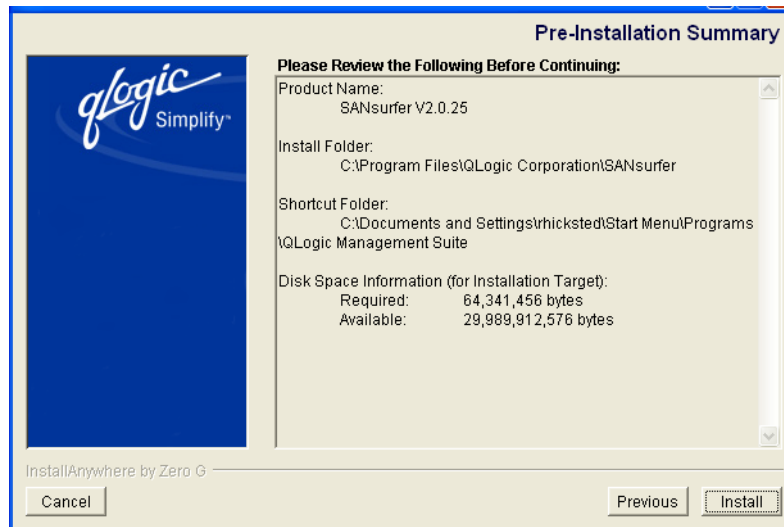

Figure 5-8. Pre-Installation Summary Dialog Box
9. The **Pre-Installation Summary** dialog box displays (see figure 5-8). Review the information. Click **Previous** if you want to change anything. Click **Install** to continue.